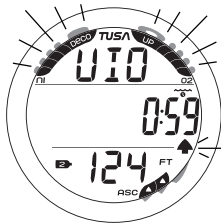

Fig. 77 - VGM MAIN
**VGM Main** information includes (Fig. 77) -